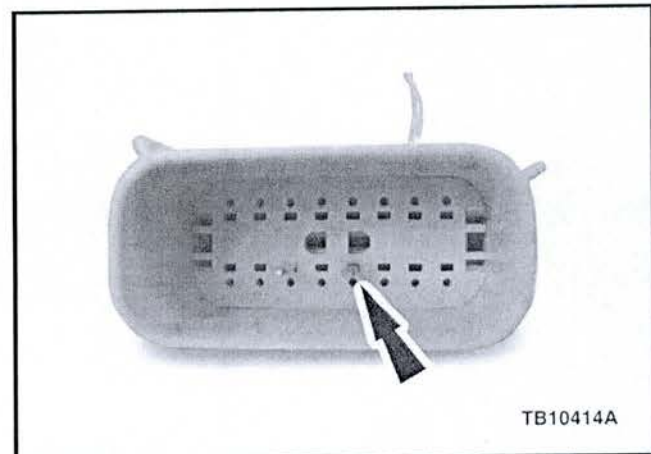

Figure 1 - Article 13-5-7
2. Locate C146 in the right rear corner of the engine compartment. Separate the connector and inspect the pins carefully for signs of contamination, discoloration and/or moisture intrusion. Refer to Wiring Diagram, Section 152-1. (Figure 1)